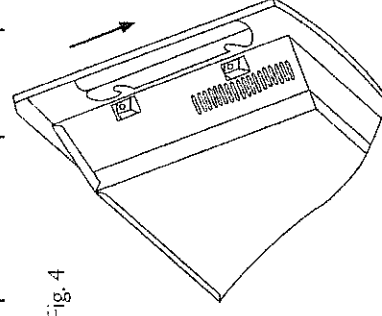

Fig. 4
- Place the front glass over the front of the fireplace aligning the hooks with the brackets on each side of the glass panel; See Fig. 4.